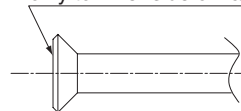

Fig. 5
- Apply ether oil or ester oil only to inner side of the flare** and screw in the flare nut three to four turns first by hand at the time of connecting the flare nut. (Refer to Fig. 5)